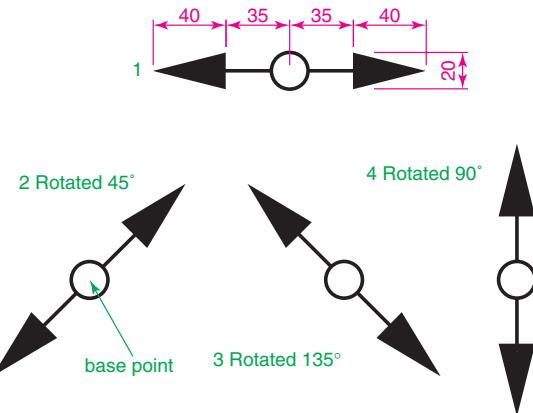

Fig. 5.27 Example – Rotate
Example – Rotate (Fig. 5.27)
1. Construct drawing 1 of Fig. 5.27 with Polyline. Copy the drawing 1 three times (Fig. 5.27).
3. Repeat for drawings 3 and 4 rotating as shown in Fig. 5.27.